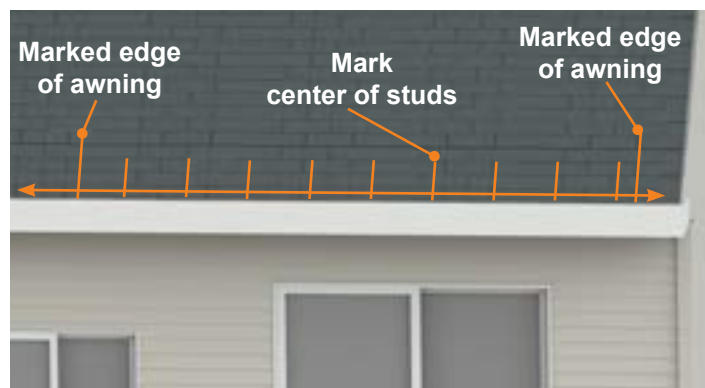

Fig.47
11. Using a stud finder or other method, find the center of the rafters along the entire length of the mounting line between the left and right sides of the awning. Mark each rafter center with a non-permanent method of marking (Fig. 47).